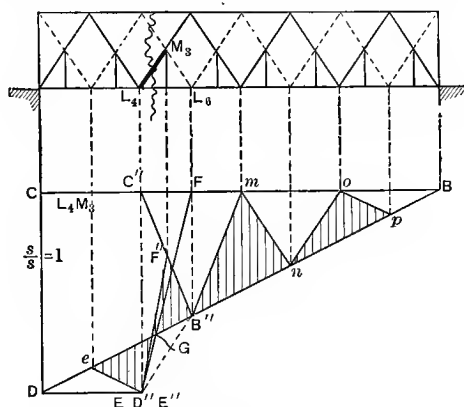

FIG. 25.
**Lower Segment of Diagonal in Sub-divided Double Triangular Truss.**—Selecting the member  $L_4M_3$ , Fig. 25, it is at once seen that it forms a part of the diagonal of the truss
shown by full lines and also a part of the auxiliary truss  $L_4M_3L_6$ . The influence diagram for vertical shear, neglecting the effect of the auxiliary truss, is  $DeD''B''mnopBD$ . The shear diagram for  $L_4M_3$  as a member of the auxiliary truss is  $D''F''B''D''$ . This is constructed according to the general rule using the line  $D''B''$  as the line  $DB$  in the usual diagram. The influence diagram for  $L_4M_3$  now becomes the shaded area in Fig. 25.